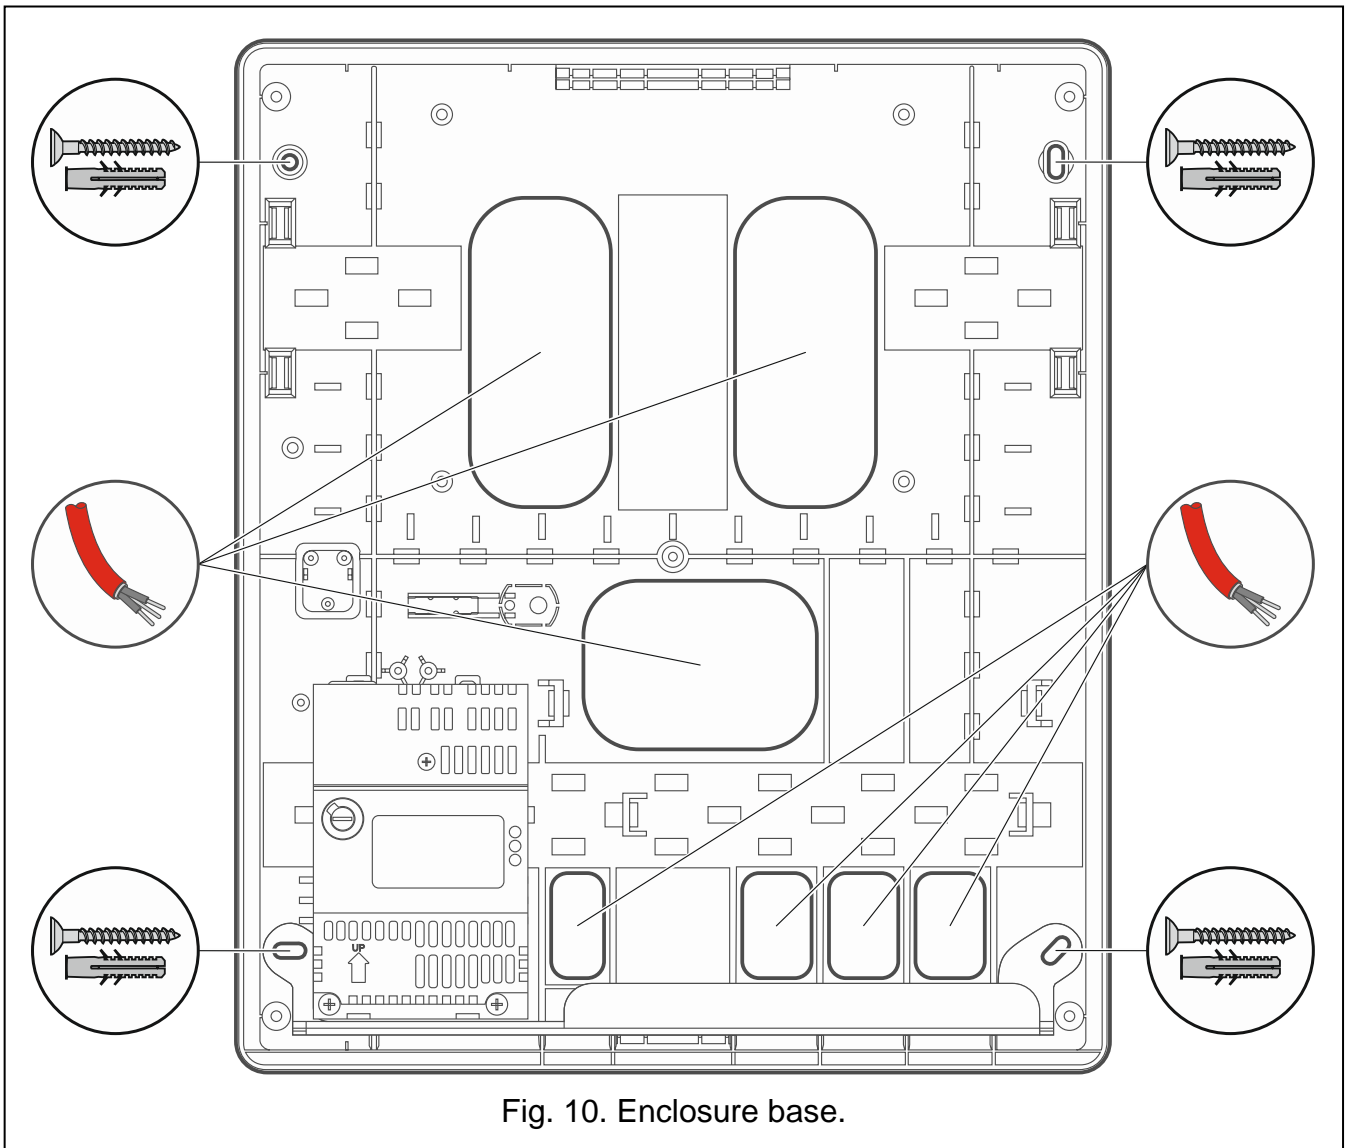

Fig. 10. Enclosure base.
4. Place the enclosure base on the wall and mark the location of mounting holes (see: Fig. 10).
6. Run wires through the opening(s) in the enclosure base (see: Fig. 10).